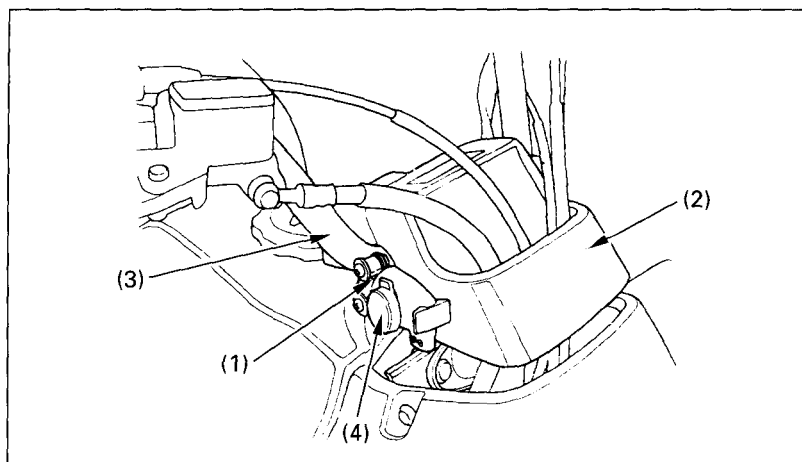

Fig. 2-24 (1) 12 V DC receptacle (3) Right handlebar
The DC receptacle (1) (Fig. 2-24) is attached to the right handlebar, near the handlebar cover (2). The receptacle provides 12 V DC power at a maximum of 180 watts (15 amps). If you exceed this limit, you may blow the fuse. (For information on fuses, and how to replace a fuse, see pages 113–114).
(2) Handlebar cover (4) Special DC plug
Electrical accessories may be connected to the receptacle by using the special DC plug (4) (Fig. 2-24) that comes attached to the receptacle. Be sure to use only accessories that are designed for 12 V DC power.
1. Remove the plug (4) from the receptacle (1) (Fig. 2-24).